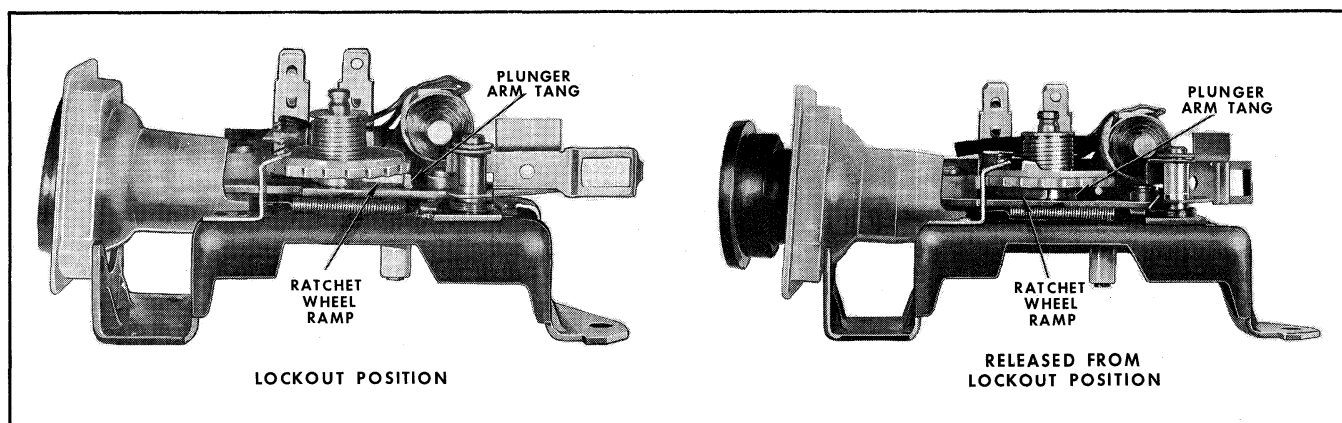

Fig. 11-113 Pump in "Lock Out" Position
2. Manually rotate ratchet wheel as required to release pump from "lock-out" position. "Lock-out" position shown in Fig. 11-113 - plunger arm tang against ratchet wheel ramp.
3. Hold end of plunger arm (Fig. 11-113) from moving. At the same time, push in against bottom of bellows with thumb and turn bellows 90°. This should release bellows.